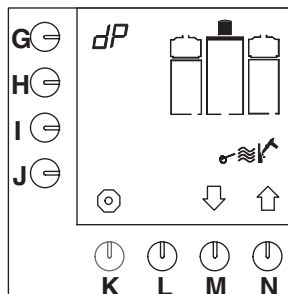

Fig. 15 Starting the descaling programme coffee-making system
- The descaling programme appears on the display (fig.15 ).